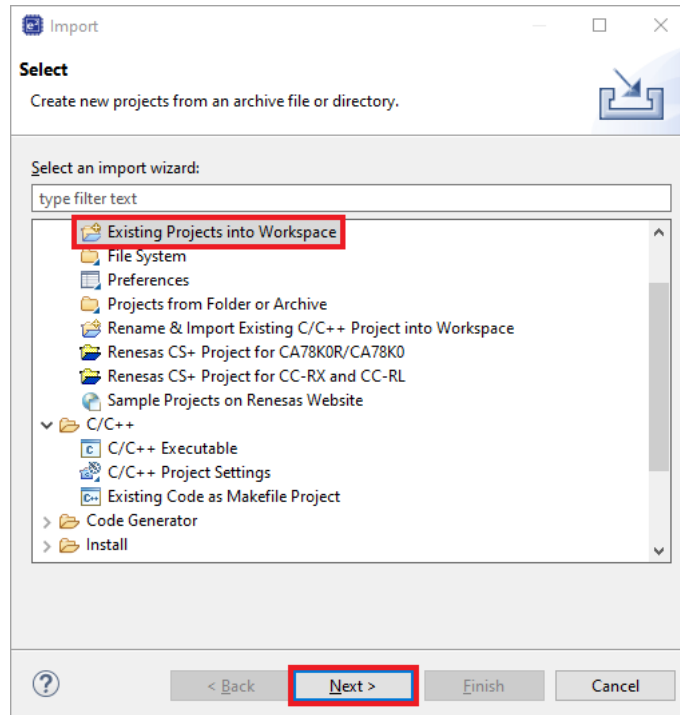

Figure 3. Selection of the Import Wizard Option
2. From the Import Wizard window (Figure 3), select **Existing Project into Workspace** or **Rename & Import Existing C/C++ Project into Workspace** and then click the **Next >** button.